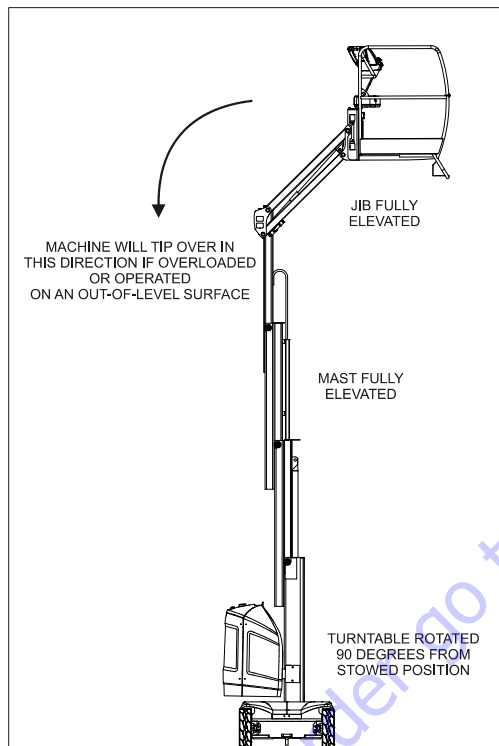

Figure 4-1. Position of Least BACKWARD stability
Machine stability is based on two (2) conditions which are called FORWARD and BACKWARD stability. The machine's position of least FORWARD stability is shown in (See Figure 4-2.) and its position of least BACKWARD stability is shown in (See Figure 4-1.).